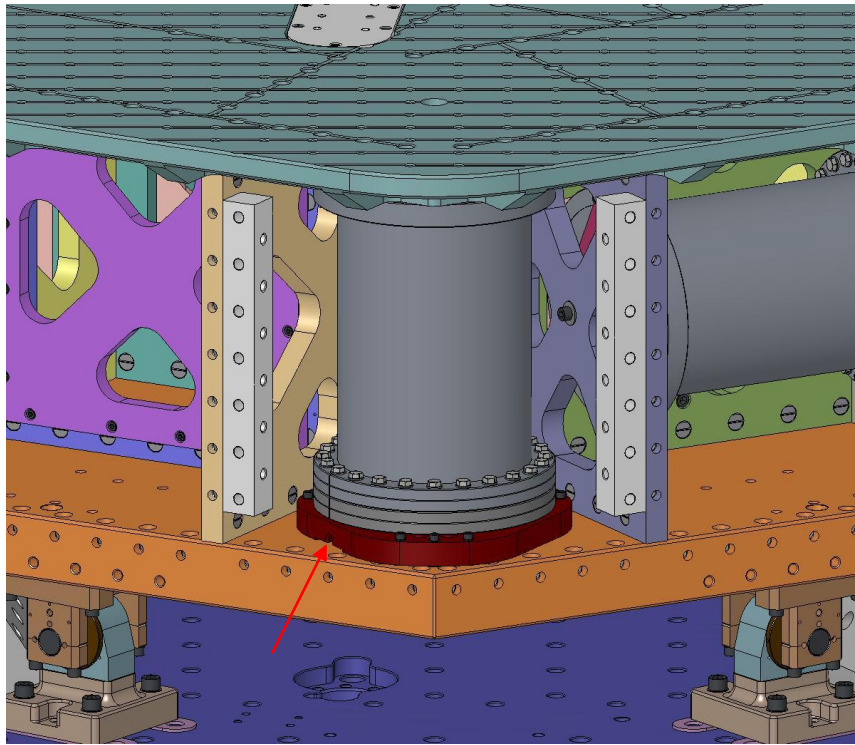

Figure 3.122. Vertical GS-13 placed on Stage 1 Floor. Note location of cable notch, indicated by arrow.
- Repeat last (6) steps, to install remaining (2) **Horizontal GS-13's**.
- Place **Vertical GS-13** at corner of **Stage 1 Floor** directly to the left of one of the **Horizontal GS-13's**. Again, pull **Captive Screws** into **Adapter Plate**, to provide adequate clearance. Note the orientation of the **Adapter Plate**, as shown in Figure 3.122.